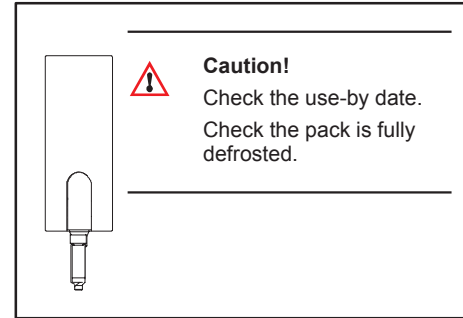

Fig. 87 Pay attention to the use-by date
3. Check the use-by dates of the ingredient packs before storing them in a refrigerator (fig. 87).